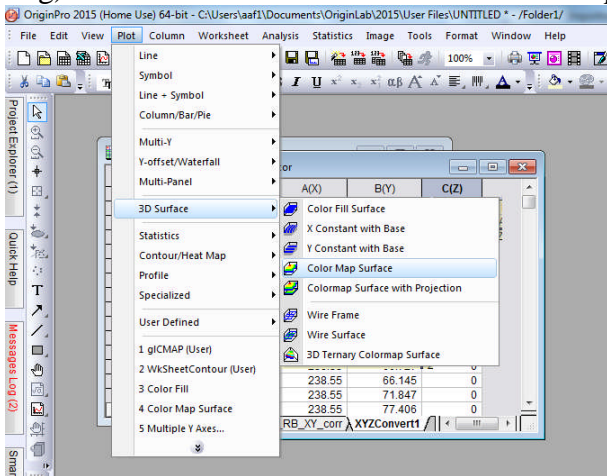

Figure 8: Plotting a 3D Surface
g) Click Plot >> 3D Surface >> Colour Map Surface (Figure 8).